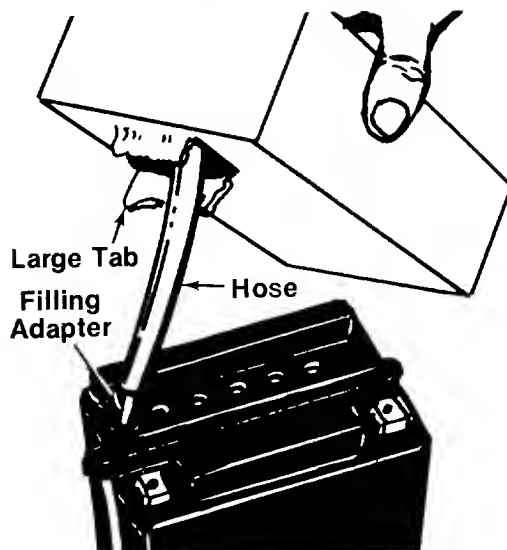

FIGURE 3.
- 6. Pull out hose from package and hold upright. Squeeze hose forcing all acid back into package. Cut off tip of hose and insert filling adapter. See figure 3.
- 7. Fill each cell to upper level marked on front of battery. Replace fill caps on battery. See figure 3.